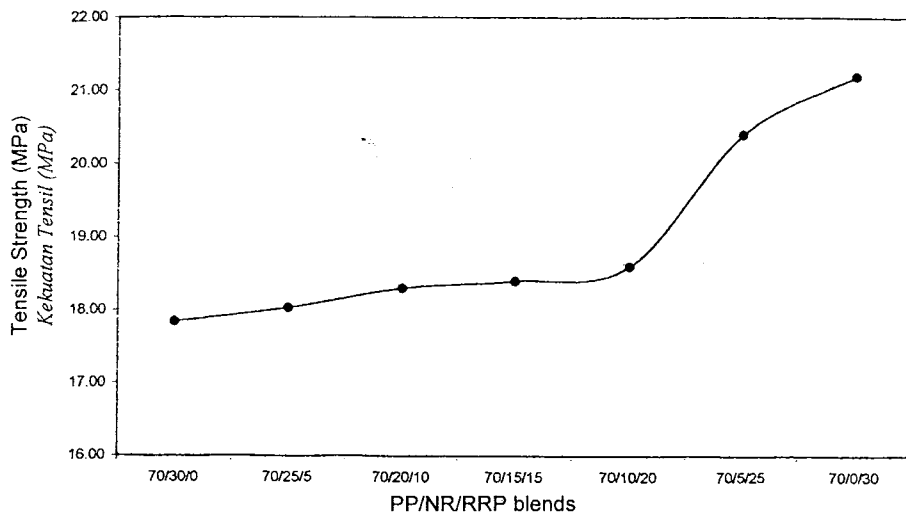
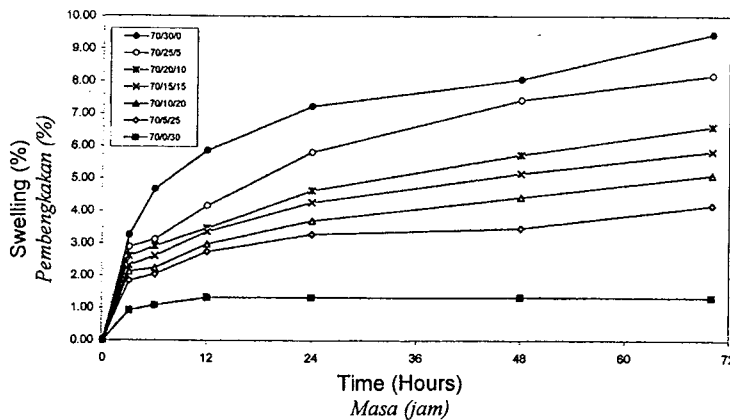

Fig. 3 - The effect of partial replacement of NR with RRP on tensile strength of PP/NR/RRP blends
Fig. 4 - % swelling-time curves of PP/NR/RRP blends with different blend ratio in ASTM #3 oil
- [b] Figure 3 shows the effect of partial replacement of NR with RRP on tensile strength of PP/NR/RRP blends. Figure 4 shows the % swelling-time curves of PP/NR/RRP blends with different blend ratio in ASTM # 3 oil. Discuss the results obtained in Figure 3 and Figure 4.